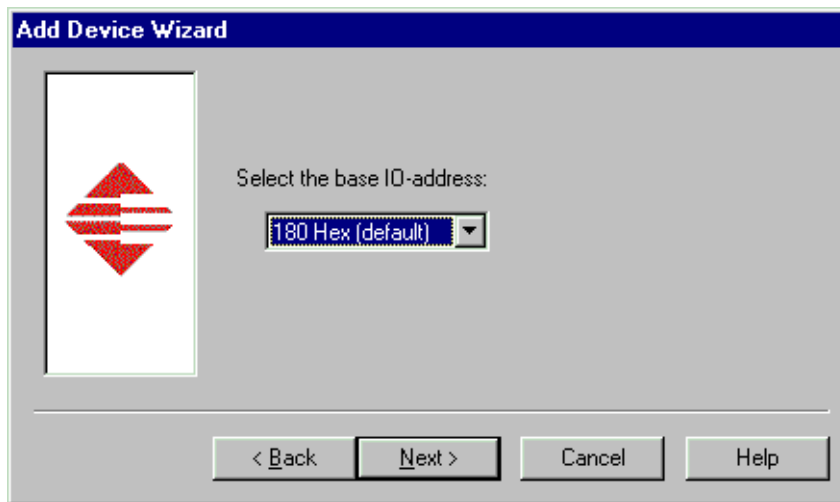

Figure 6. Set the I/O Base Address to 180.
11. Set the I/O Base Address to 180 Hex (see Figure 6), then click **Next**.